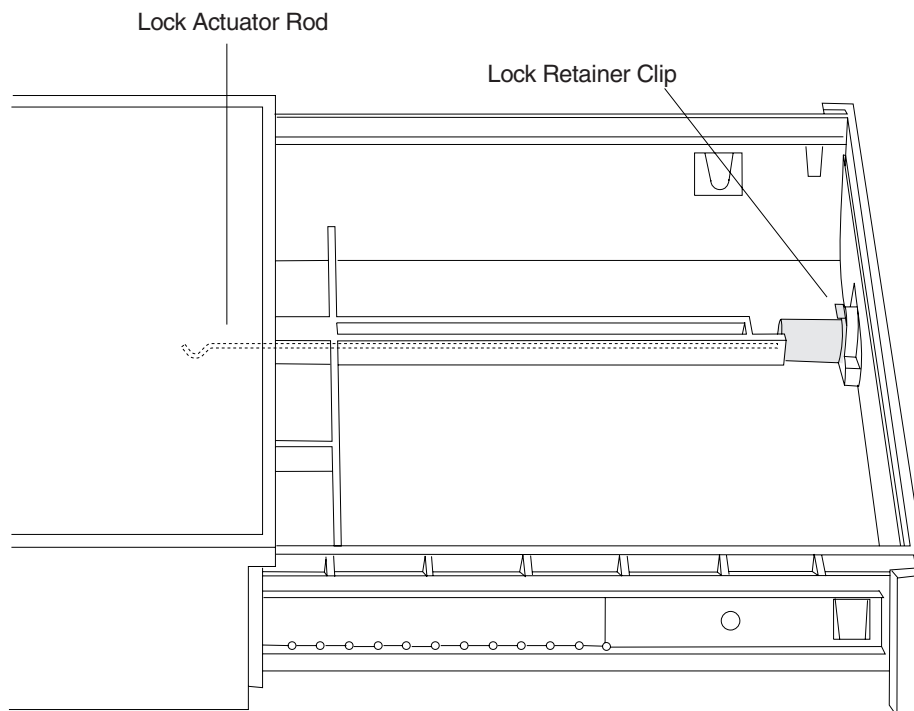

Figure 91. Keylock assembly
2. Remove the lock retainer clip holding the keylock assembly on the inside of the drawer (see Figure 91 on page 114).
1. Ensure that the lock actuator rod is in the position shown in Figure 91.